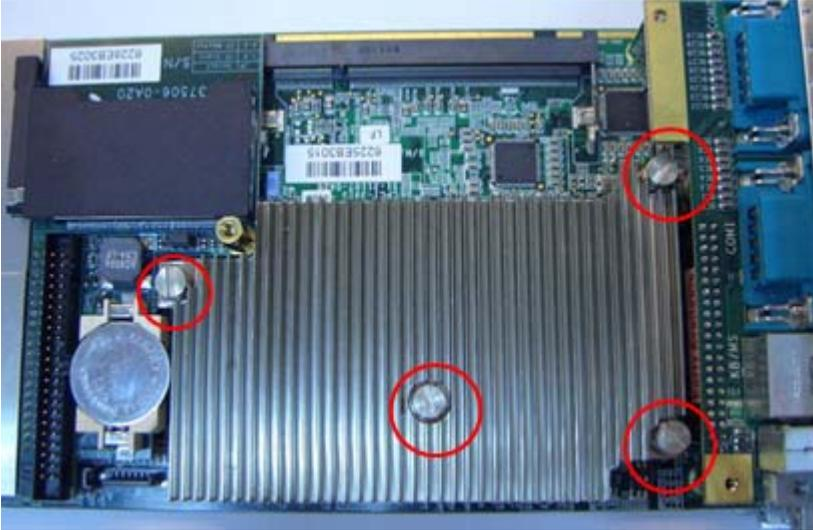

Figure 5-2: Heat Sink Installation
1. Remove the film on top of the thermal pads. Refer to Figure 5-2: Heat Sink Installation.